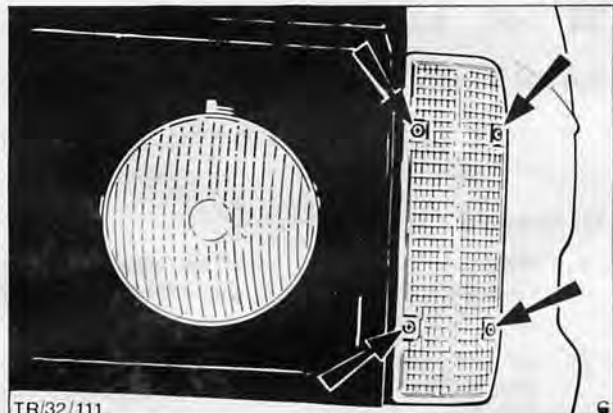

Fig. 11. Indicator assembly mounting screws
- 1. Remove four screws securing assembly to vehicle, Fig. 11.